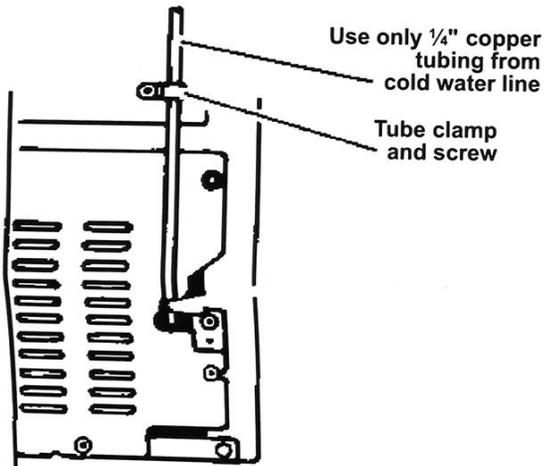

Figure 13
23. Attach the compartment cover to the rear of the refrigerator. Then attach the tube clamp. To do this a $\frac{1}{8}$ " hole must be drilled in the back of the unit directly above the cover. See Figure 13.